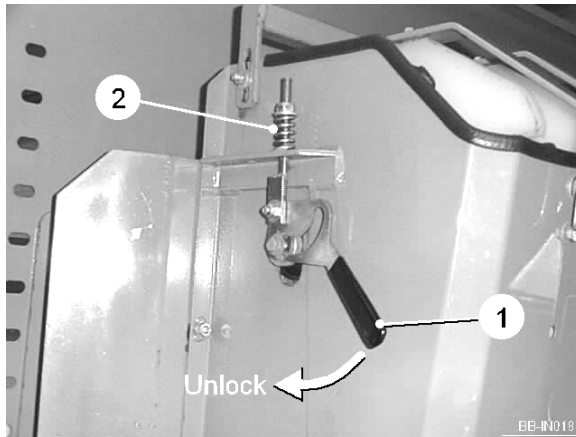

Fig 17
The cup belts pick up the seed from the feeding pocket and transfer them to the ground. Rapid locking brackets (item 1, figure 17) fitted to each of the tunnels keep the cup belts tensioned and also allow rapid maintenance of the cup belts. To slacken the cup belts, push the handles fully down until hanging loose. Each belt is tensioned by two spring adjusters (item 2, figure 17) which when tensioned correctly avoid slipping of the belt around the top and bottom rollers. Always adjust both sides evenly.